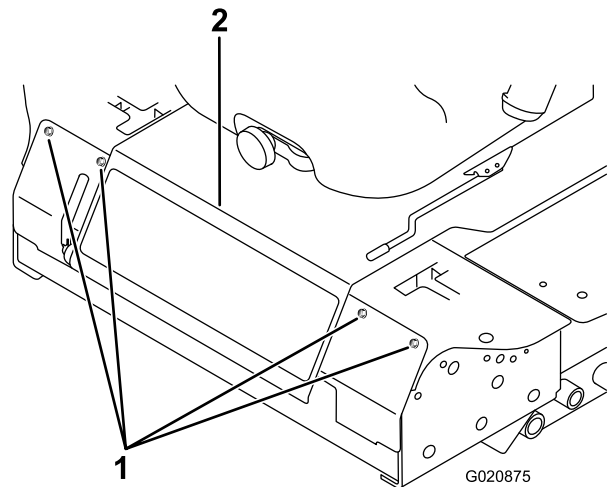

Figure 59
3. Remove the bolts securing the front panel and remove the panel (Figure 59).